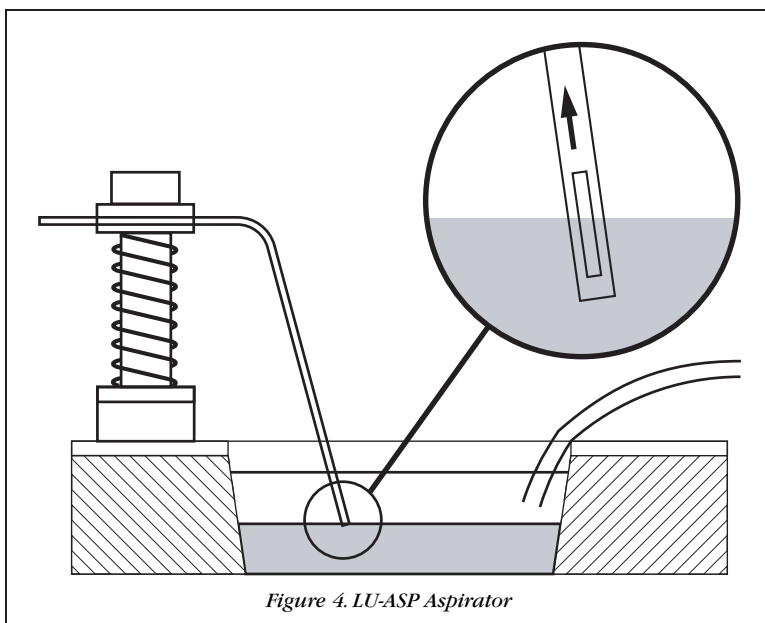

Figure 4. LU-ASP Aspirator
1. Aspirator (PS-ASP): see Section 4 Perfusion (page 11, figure 4)